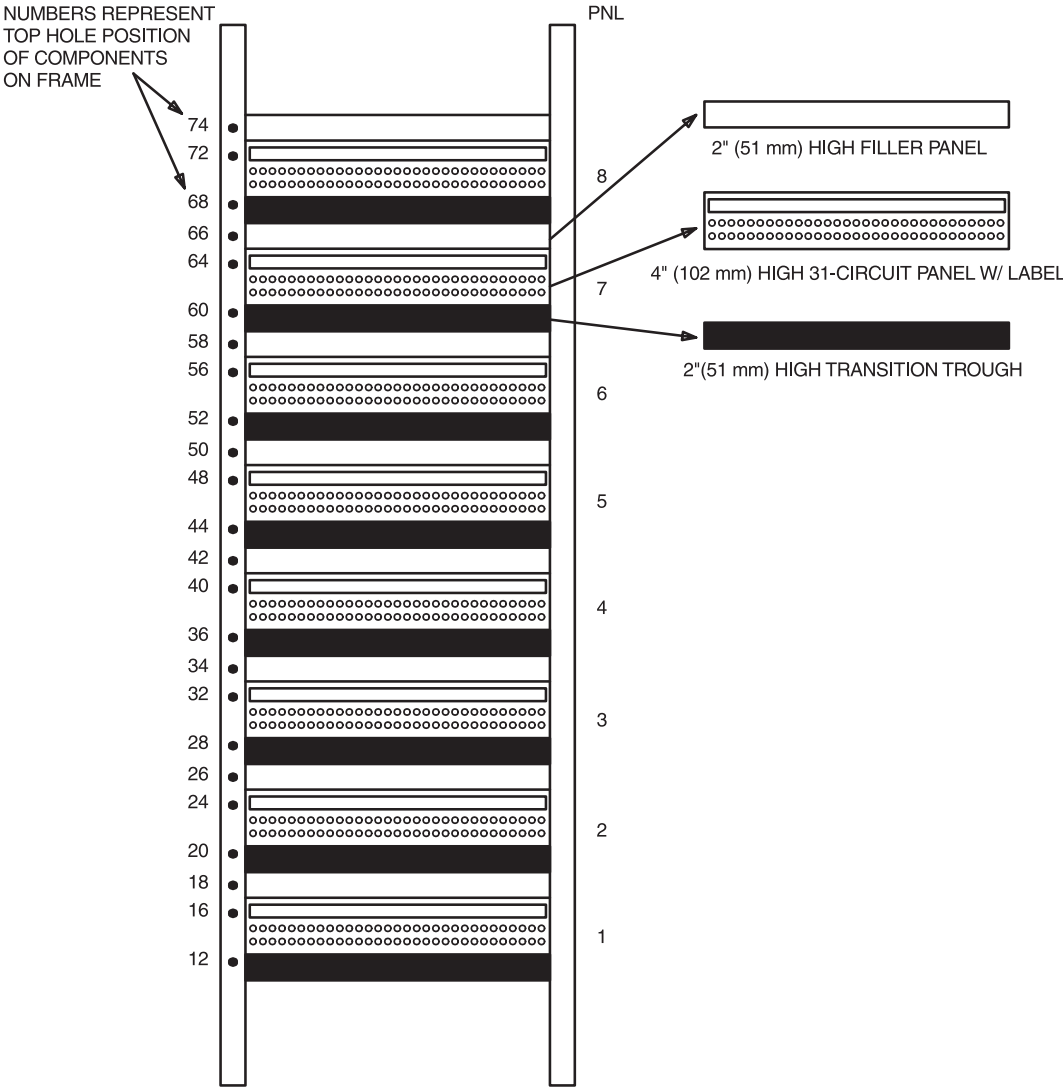
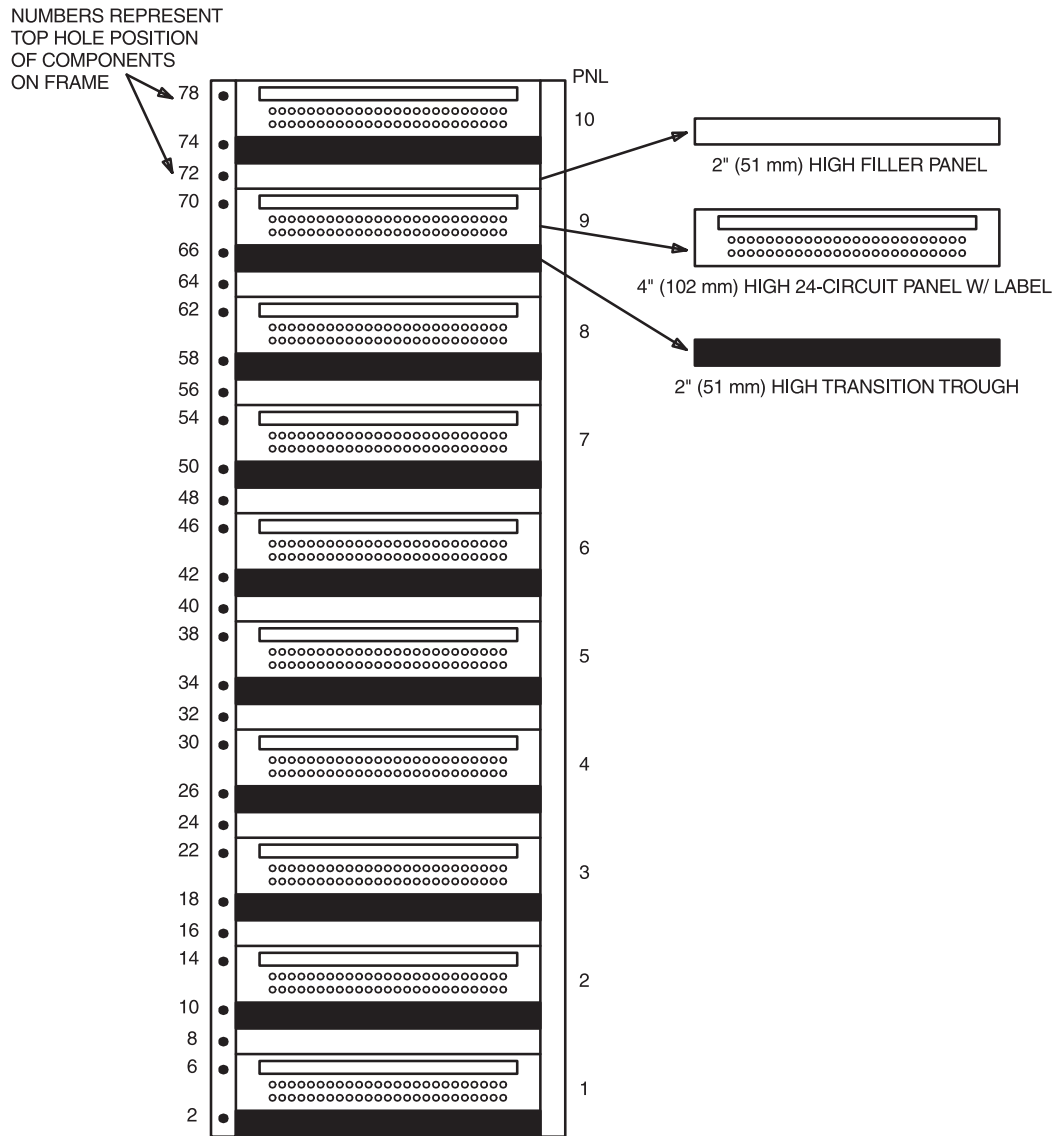

Figure 4. DSAB3/1 Spacing of Assembly Components
Figure 5. DSAB3/3 Spacing of Assembly Components
1. Locate the mounting positions on the network bay frame for the number of shelves to be mounted. Refer to Figures 4 or 5. Shelf assemblies are mounted in the bay starting at the lowest shelf assembly first, then working up the bay.
2. When mounting Group 2, begin with the transition trough, using four 12-24 screws. When mounting individual panels, be sure to position them according to the projected final bay layout shown in Figure 4 on page 8 or Figure 5 on page 9.
8. At the rear of the bay, install one cable bracket directly behind each filler panel installed on the front of the frame, using four 12-24 screws. In accordance with Figures 4 and 5, the cable bracket for the uppermost shelf assembly should be positioned in hole No. 74 for DSAB3/1 and hole No. 78 for DSAB3/3. ED6C174-31, Group 2 for DSAB3/1 and ED6C174-30, Group 2 for DSAB3/3 includes two additional cable brackets. When a 7-foot (2.1 m) frame is used, one additional cable bracket should be installed at the top of the bay, in position 78, and the second bracket may be discarded. When a 9-foot (2.7 m) or 11-foot 6-inch (3.5 m) bay is used, one cable bracket should be installed at the top of the bay in the uppermost hole and the second cable bracket should be mounted halfway between the top of the bay and the highest shelf assembly. This would be reversed for subfloor cabling.